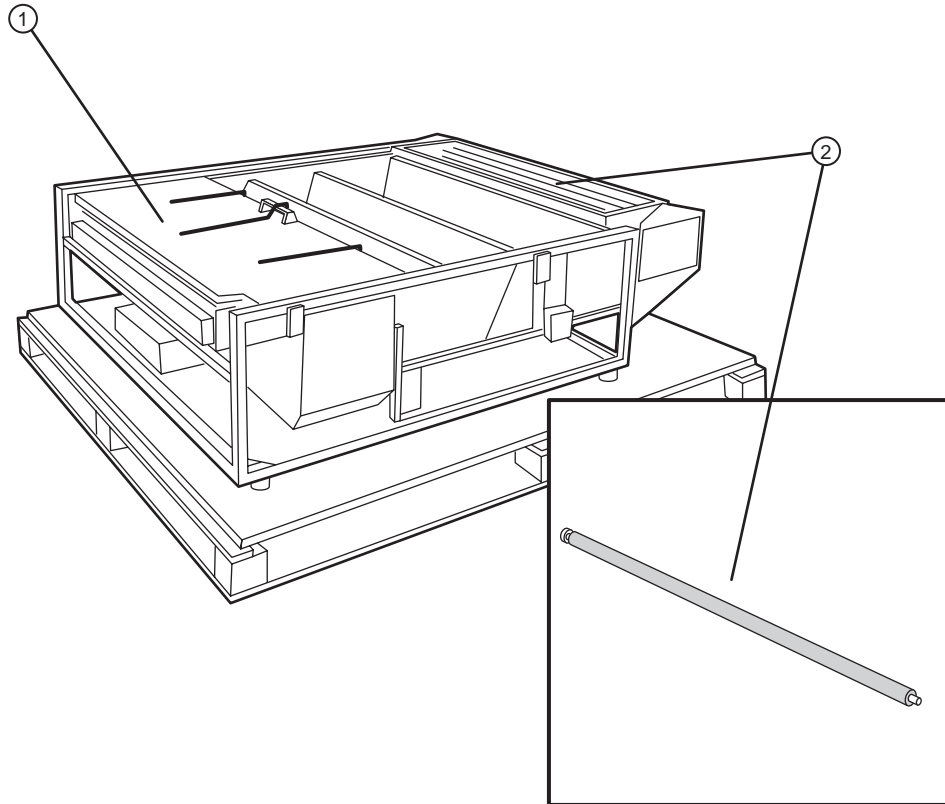

Figure 1-6 Engine lid and roller.
①–Bottom shipping crate. ②–Engine packing.
5. At the front of the engine, remove the roller and bearing on top. Refer to Figure 1-6.
6. At the rear of the engine tape the door securely to the frame. Refer to Figure 1-6.